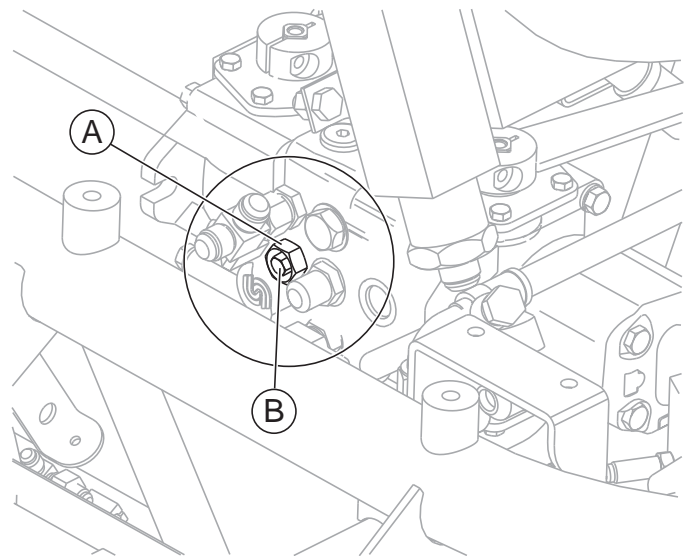

Figure 43. Steering Pressure Adjustment
3. Loosen 1-1/16" jam nut on charge relief valve (Item A, Figure 43).
4. Use a 1/2" socket to adjust the small hex nut within the larger hex jam nut (Item B, Figure 43).